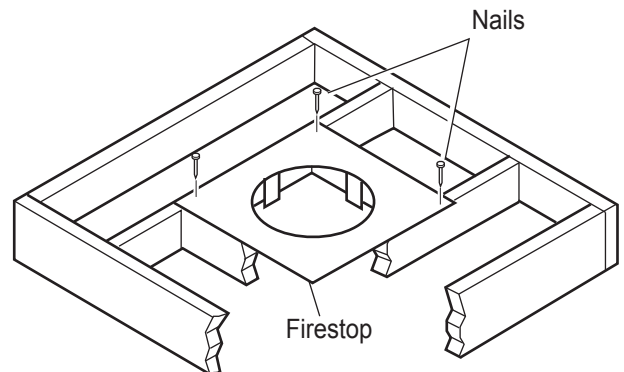
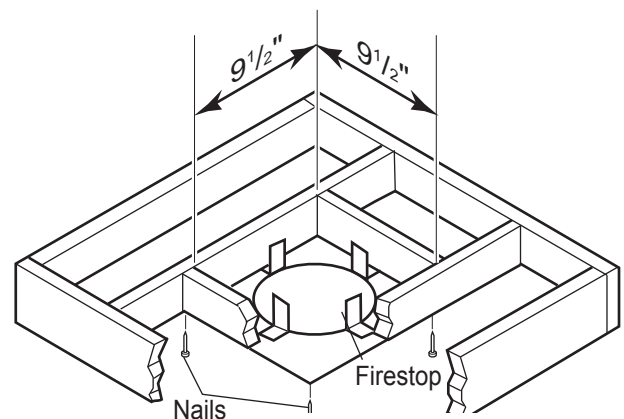

Figure 28- If area above is a room, install firestop above framed hole as shown
Figure 29 - If area above is not a room, install firestop below framed hole as shown
1. Cut a 9 $\frac{1}{2}$ " (241mm) square hole in the ceiling using the locating hole as a center point. The opening should be framed to 9 $\frac{1}{2}$ "x9 $\frac{1}{2}$ " (241mm x 241mm) inside dimensions as shown in Figure 12, page 17 using framing lumber the same size as the ceiling joist. If the area above the ceiling is an insulated ceiling or a room, nail firestop from the top side. This prevents loose insulation from falling into the required clearance space. See Figure 28. Otherwise, install firestop below the framed hole. The firestop should be installed with no less than three nails per side. See Figure 29.